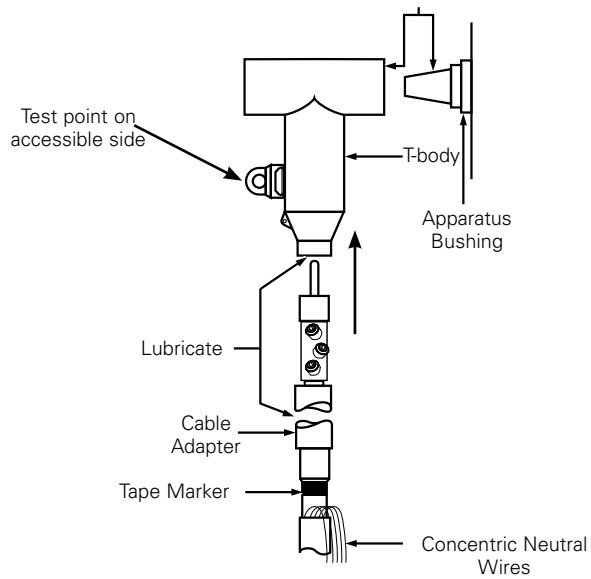

Figure 13. Line illustration of T-body installation.
- Without moving the cable adapter, slide T-body onto cable adapter until compression connector eye is centered in 600 A interfaces. (Refer to Figure 13.)